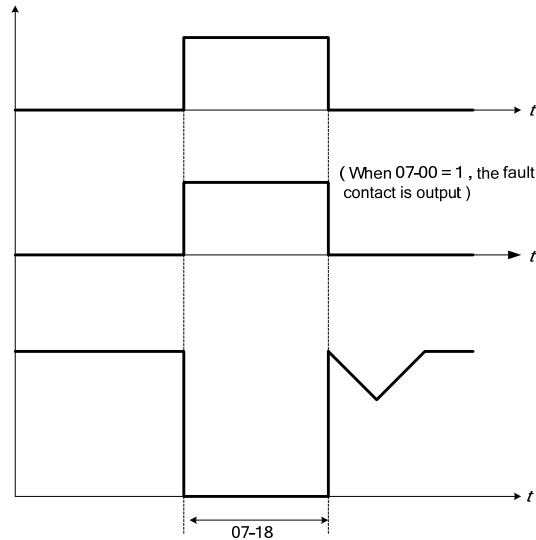

Figure 4.3.55 Auto-restart operation.
- . Please refer to Figure 4.3.55 for the auto-restart operation.